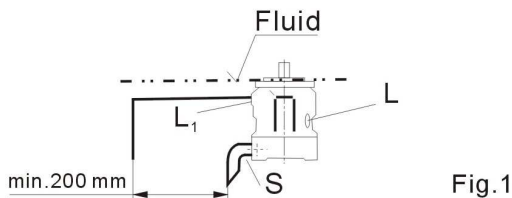

Fig. 1
a) If the minimum fluid level is equal to or above the pump mounting face close port "L" plugged, leave ports "L1" and "S" open; L1 piped and recommendation S piped (see Fig. 1).